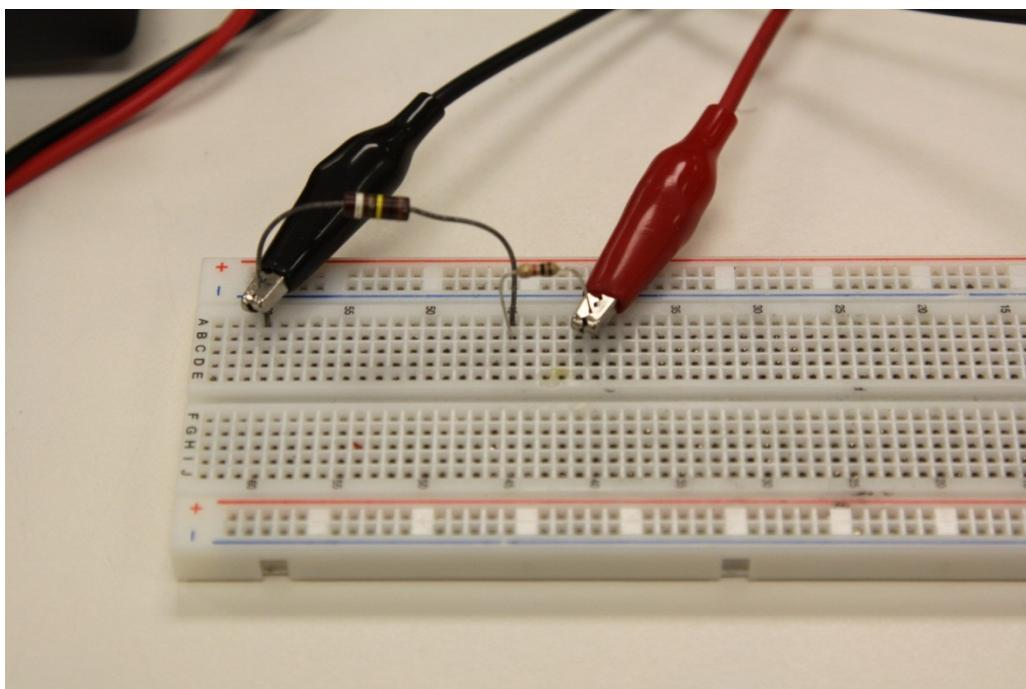

FIGURE 1-2. RESISTORS CONNECTED IN SERIES ON PROTO-BOARD
- Pick two resistors that are approximately two orders of magnitude different, i.e. 1,000  $\Omega$  and 100,000  $\Omega$ , or 22  $\Omega$  and 2,200 (See Figures 1-2, 1-3, and 1-4.)